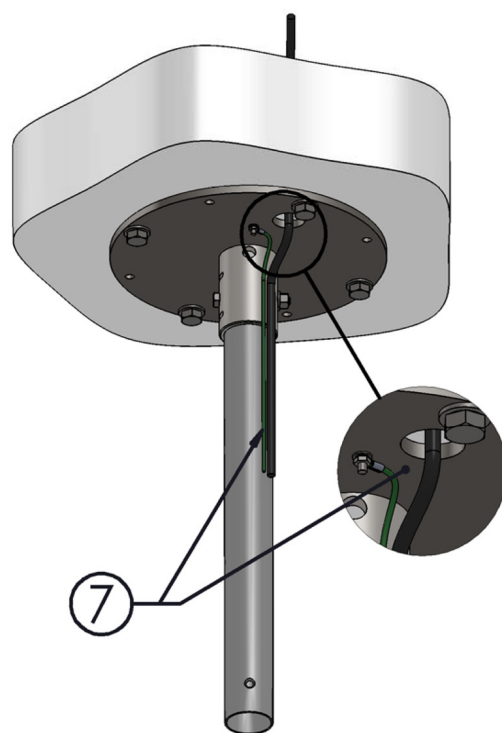

Fig. 7.0
7. Reticulate 240V power to the power supply mounting location in accordance with local standards and regulations. Attach the mounting plate earth, and reticulate power to the mounting location, as shown in Fig 7.0.